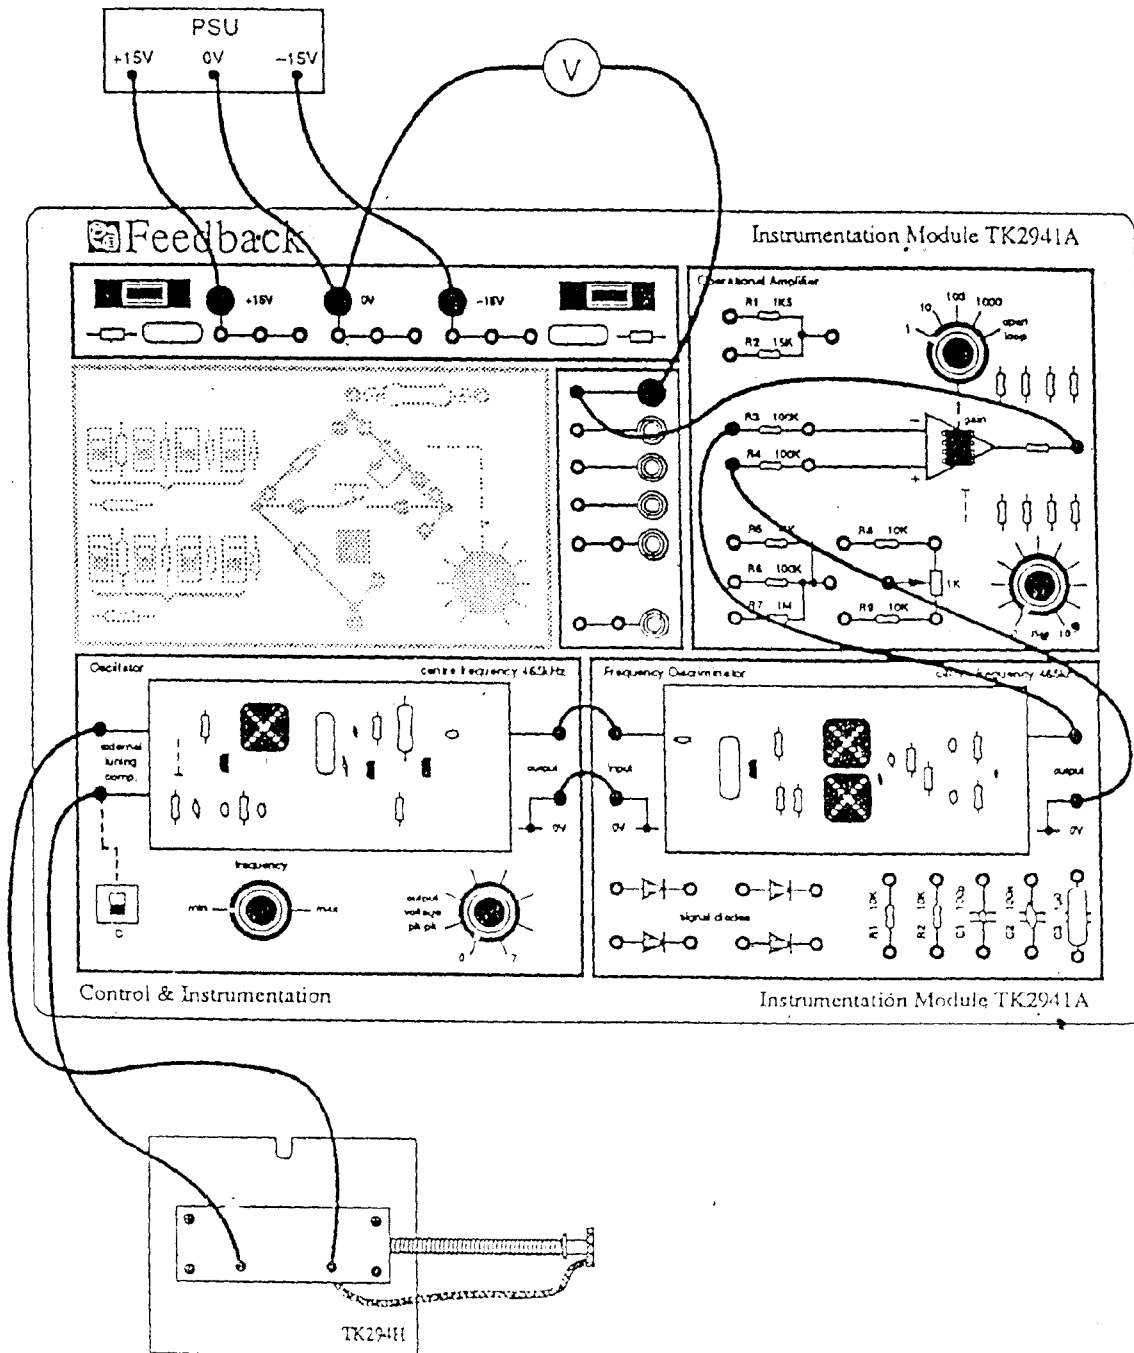

Figure 7-1
- 2) Connect up the transducers and module as shown in figure 7-1. Keep the leads as short as possible in order to reduce stray capacitance.
- 1) Connect the circuit as shown in figure 7-1 except TK294H which should be replaced by TK294J